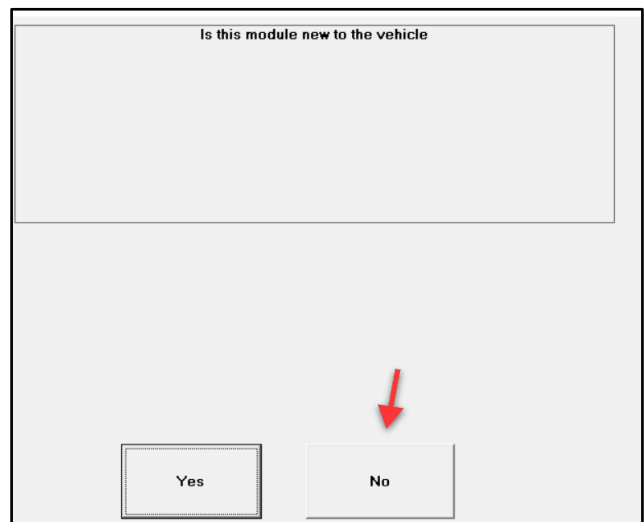

Figure 7
- 12. In the next two pop-up windows, click "No" (refer to Figure 7).